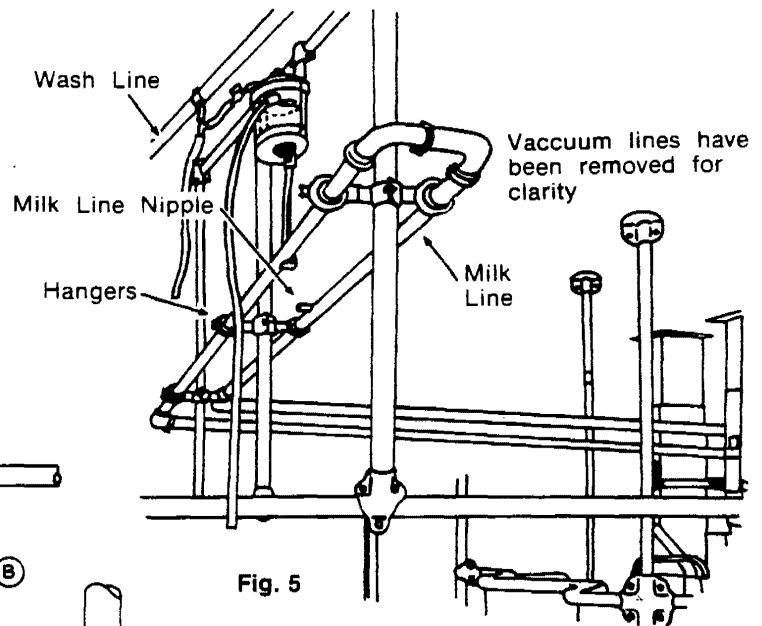

Fig. 5
- For high line washing, see Figs. 5 and 6.